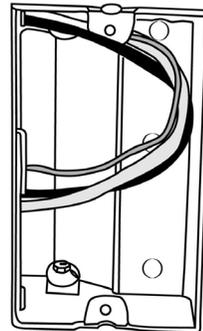

Figure 3
3. Complete electrical installation per code (Figure 3).